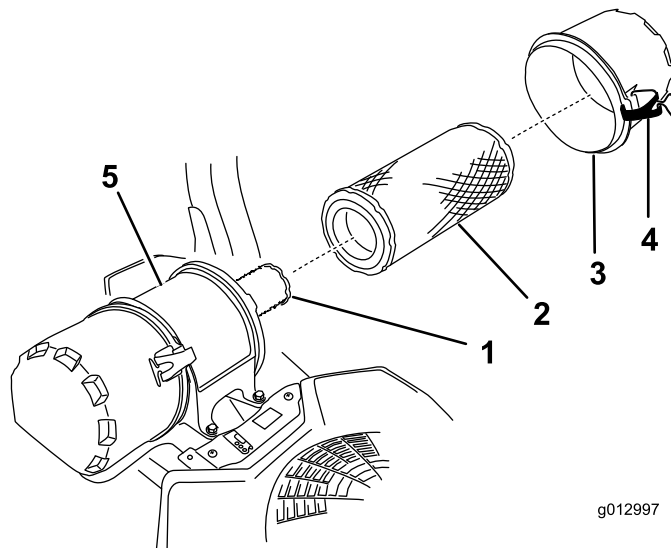

Figure 47
6. Release the latches on the air cleaner and pull the air cleaner cover off the air cleaner body (Figure 47).
8. Gently slide the primary filter out of the air cleaner body (Figure 47).
2. If the inner filter is being replaced, carefully slide it into the filter body (Figure 47).
3. Carefully slide the primary filter over the inner filter (Figure 47).
4. Install the air cleaner cover and secure the latches (Figure 47).